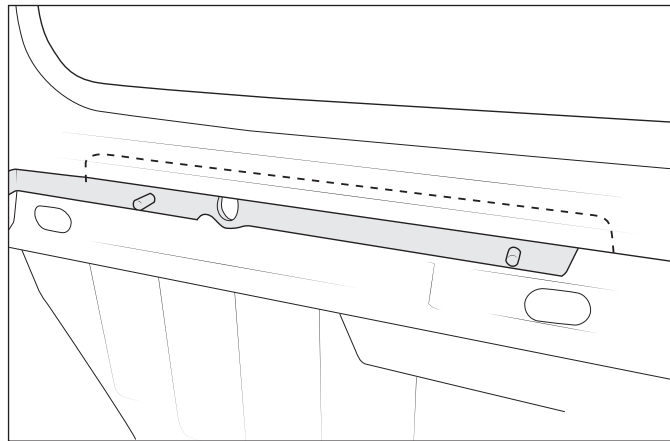

Figure 11
4. If the bed cap has a fiberglass flange on the bulkhead that reaches into the bed area it will need to be trimmed (fig. 11). Place the VTM's Bulkhead Bracket into position and mark where the fiberglass flange needs to be cut.